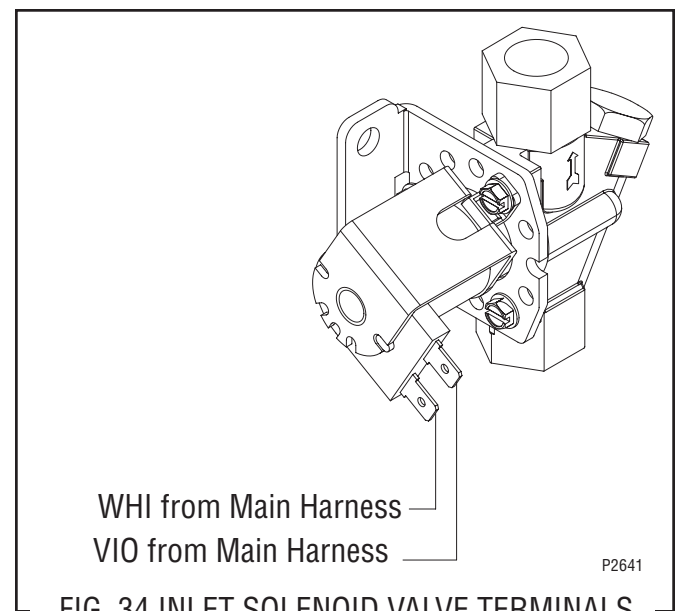

FIG. 34 INLET SOLENOID VALVE TERMINALS
9. Refer to Fig. 34 and reconnect the wires.